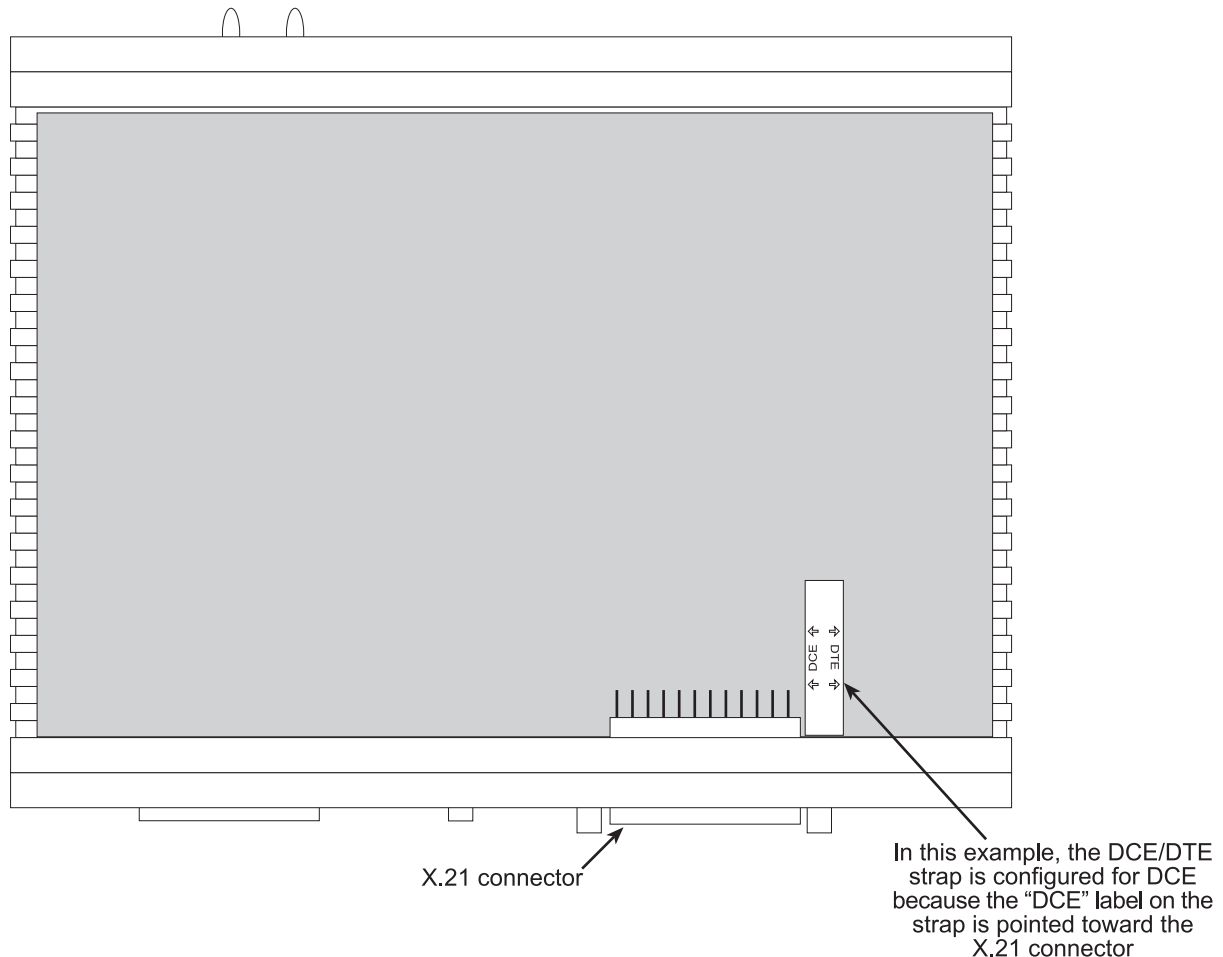

Figure 7. Location of DCE/DTE board
2. Locate the small daughter board on the 3086 board between the DSL port (RJ-45) connector and the serial port connector (Figure 7 shows location of DTE/DCE daughter board).